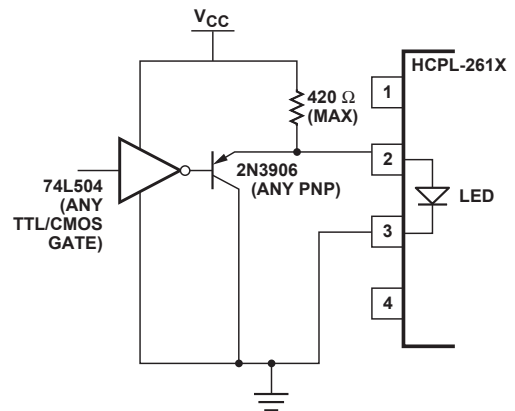

Figure 22. TTL interface circuit for the HCPL-261A/-261N families.
1. Use of drive circuits where current is shunted from the LED in the LED “off” state (as shown in Figures 22 and 23). This is beneficial for good CMR_H .
Using any one of the drive circuits in Figures 22-24 with $I_F = 10$ mA will result in a typical CMR of 8 kV/ μ s for the HCPL-261N family, as long as the PC board layout practices are followed. Figure 22 shows a circuit which can be used with any totem-pole-output TTL/LSTTL/HCMOS logic gate. The buffer PNP transistor allows the circuit to be used with logic devices which have low current-sinking capability. It also helps maintain the driving-gate power-supply current at a constant level to minimize ground shifting for other devices connected to the input-supply ground.